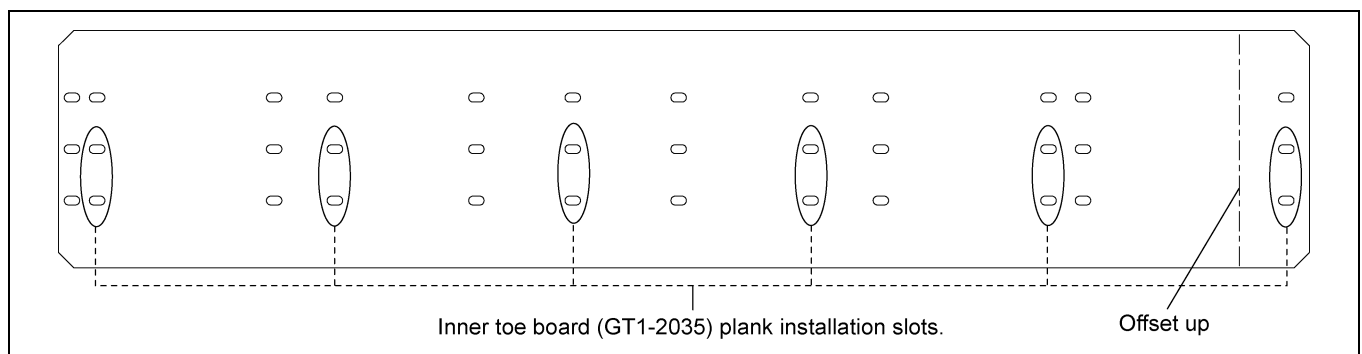

Figure 4K 30' Inner Toe Board (GT1-2035)
3. Inner toe board (GT1-2035) is arranged with many slots to install plank. Install planks to corresponding slots as shown in *Figure 4K*.